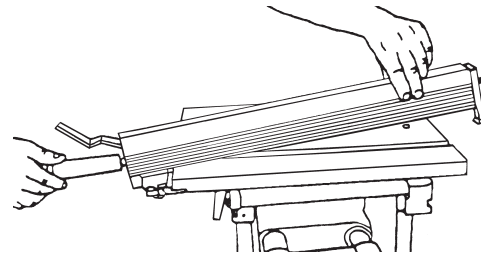

Figure 67
1. Place the Rip Fence on the Worktable by first putting the Fence Base on the Front Rail, then lowering the rest of the Rip Fence. Figure 67.